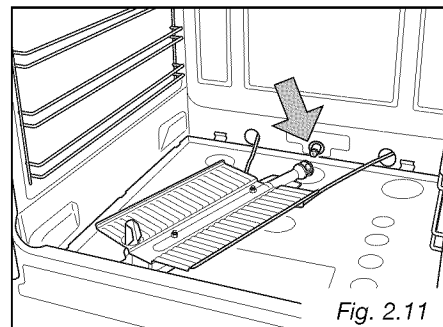

Fig. 2.11
- Withdraw the burner as shown in figure 2.11 and rest it inside the oven. Take care not to damage the wire to the ignition electrode and the safety valve probe.
- Using a 7 mm box spanner, unscrew the injector (indicated by the arrow in fig. 2.11) and replace it by the proper one according to the kind of gas. Then replace the burner repeating the above steps in reverse order.